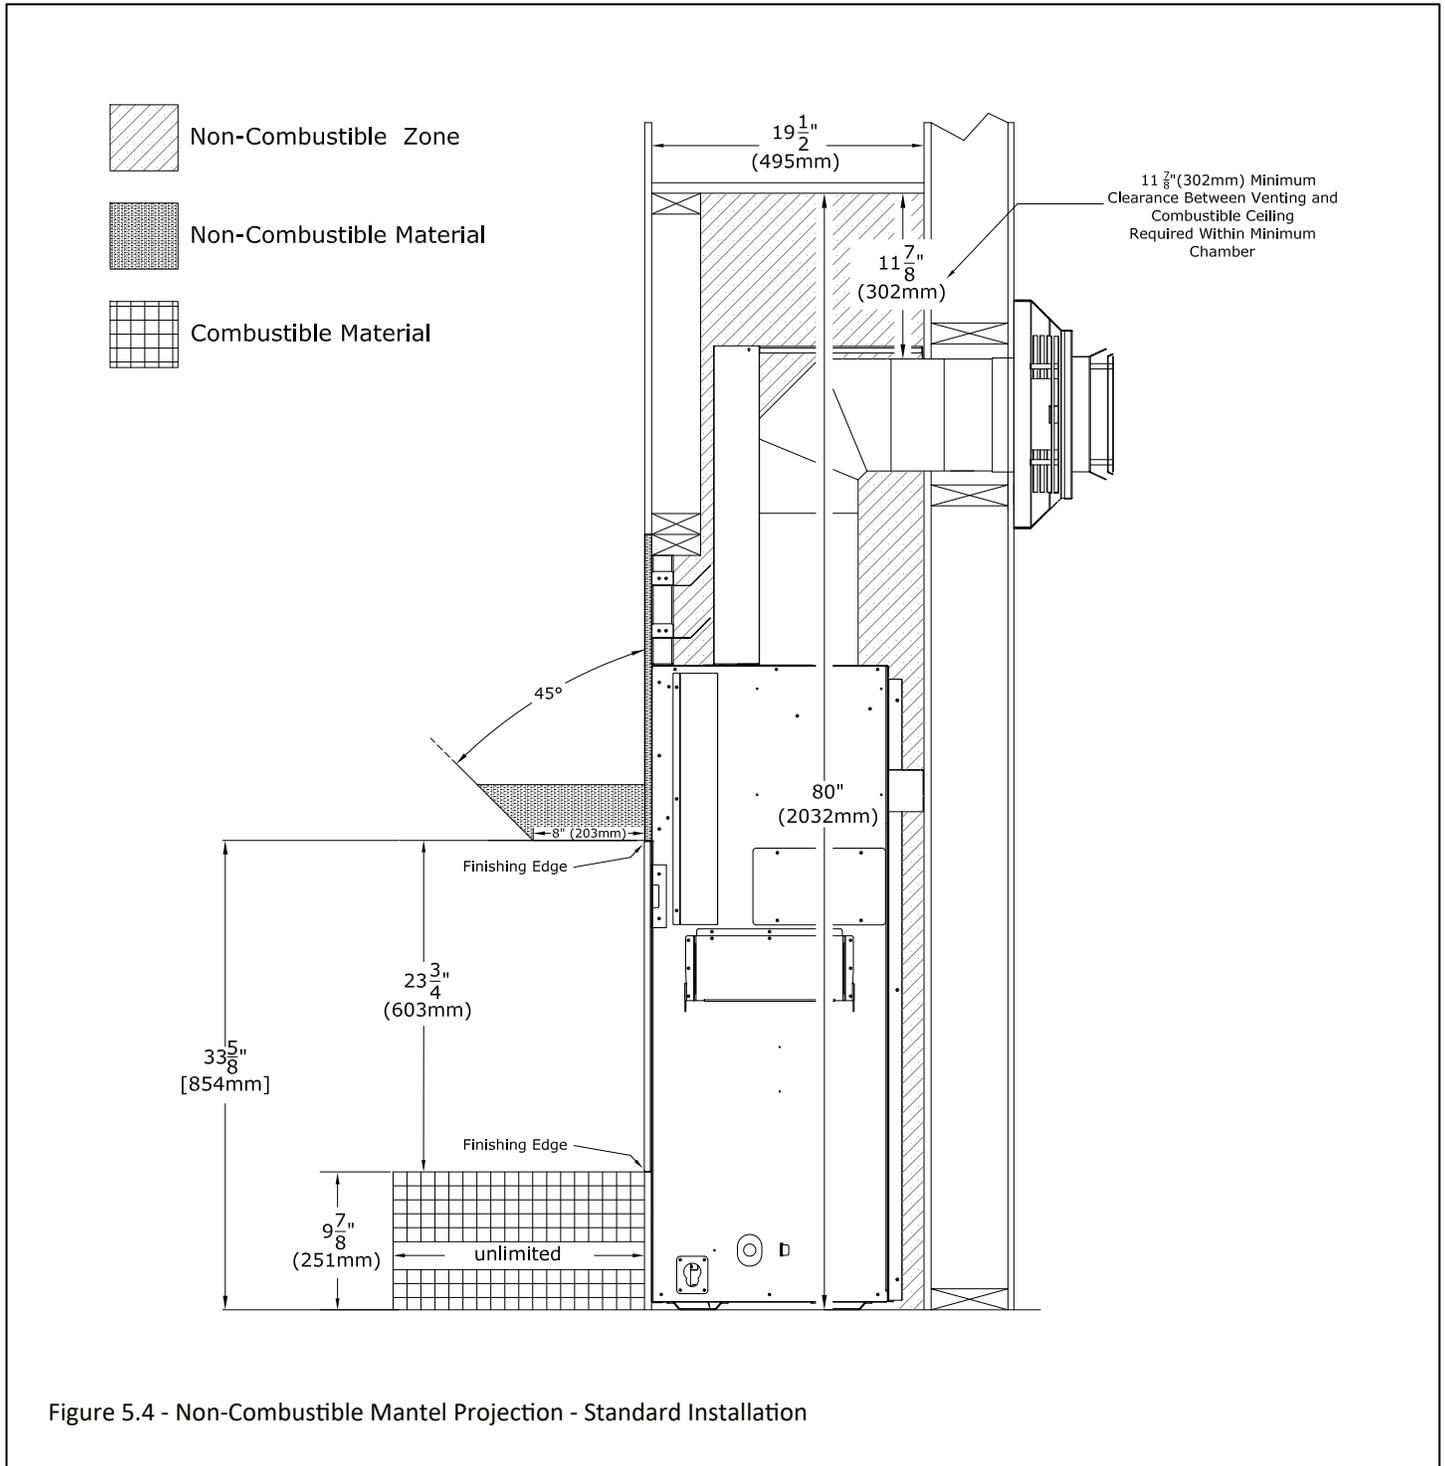

Figure 5.4 - Non-Combustible Mantel Projection - Standard Installation
- Non-combustible Mantel Projections: As referenced in Figure 5.4, the maximum 8" projection of a 8" (203mm) non-combustible mantel can be installed at 0" (0mm) from the top fireplace finishing edge. Follow projection 1" (25mm) up for every 1" (25mm) deeper.
Figure 5.4 shows a 8" (203mm) non-combustible mantel projection flush with the top finishing edge of the fireplace. The dimensions shown are allowed in the standard installation scenario. Mantel projections can increase 1" (25mm) of depth for every 1" (25mm) of height starting at the 8" (203mm) mantel. A combustible hearth is allowed with unlimited projection starting flush at the bottom finishing edge of the fireplace.